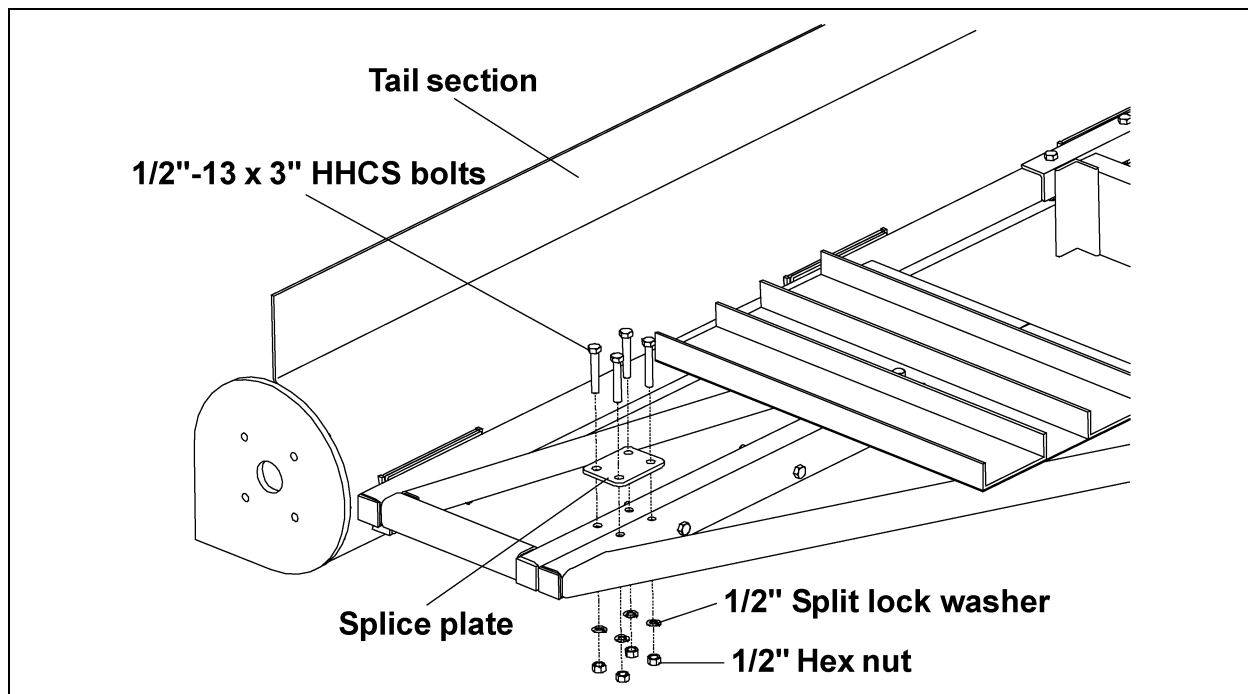

Figure 5H
8. Fasten splice plates to tail frame using eight (8) 1/2"-13 x 3" HHCS bolt, split lock washers and hex nuts. *(See Figure 5H.)*